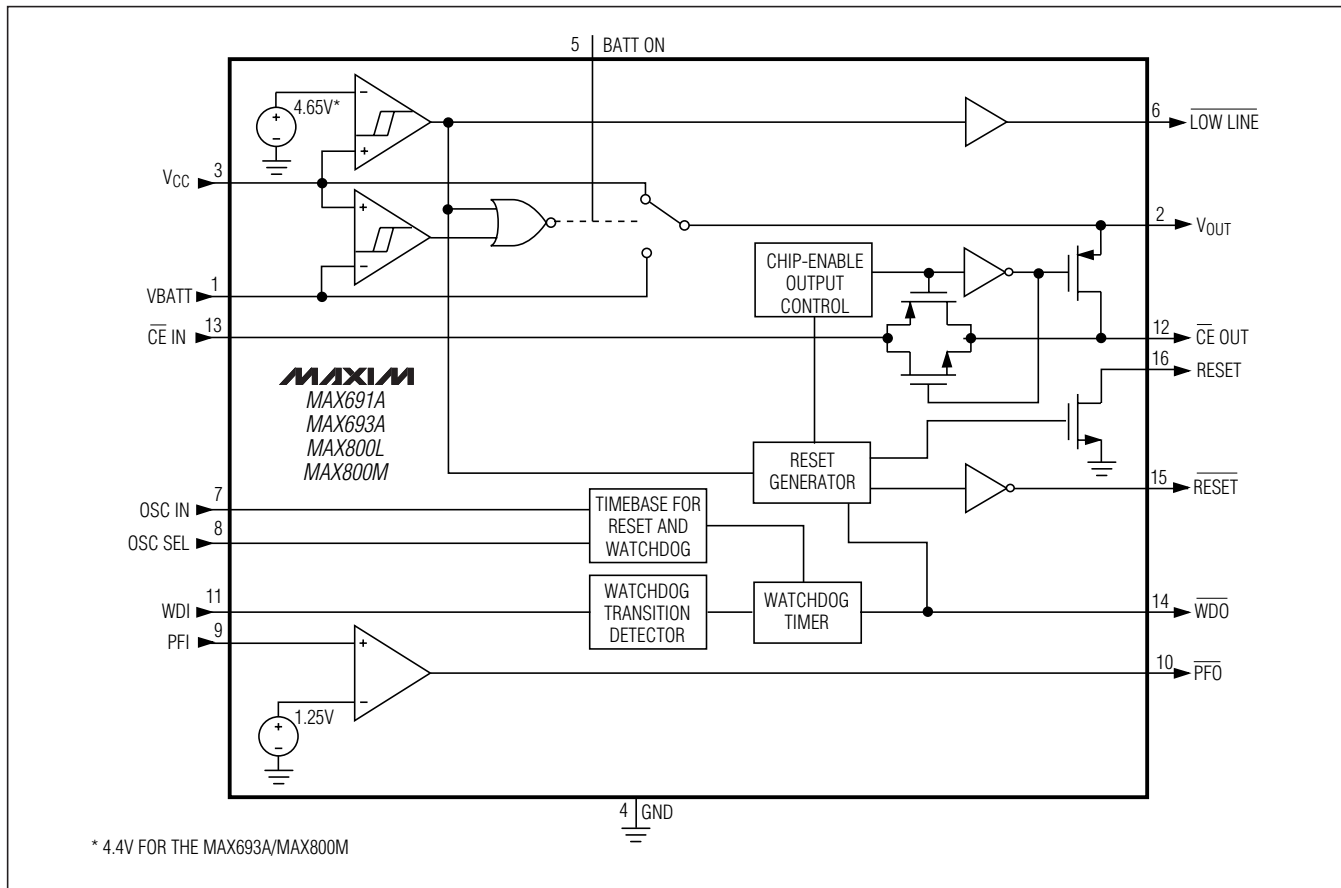

Figure 4. MAX691A/MAX693A/MAX800L/MAX800M Block Diagram
The MAX691A/MAX693A/MAX800L/MAX800M provide internal gating of chip-enable (CE) signals to prevent erroneous data from being written to CMOS RAM in the event of a power failure. During normal operation, the CE gate is enabled and passes all CE transitions. When reset is asserted, this path becomes disabled, preventing erroneous data from corrupting the CMOS RAM. All these parts use a series transmission gate from $\overline{\text{CE}} \text{ IN}$ to $\overline{\text{CE}} \text{ OUT}$ (Figure 4).